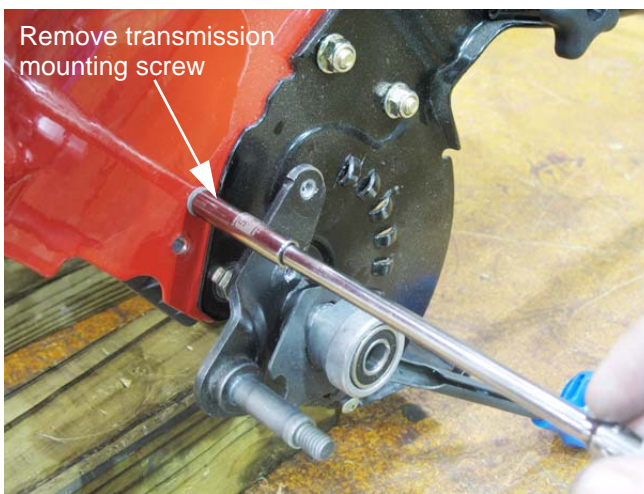

Figure 6.12
- 4b. Remove the last screw that holds the transmission to the deck. See Figure 6.12.